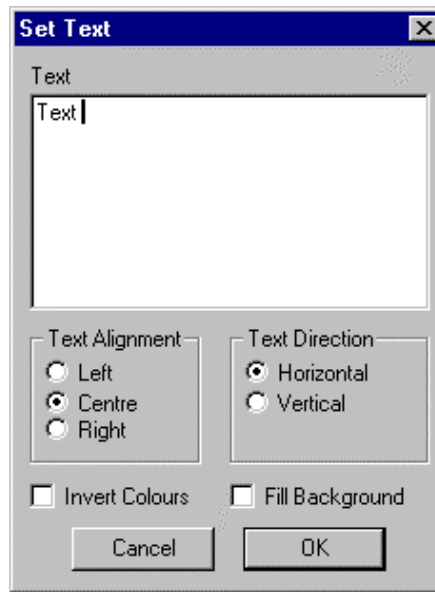

Figure 13.2 – Set Text
5. The Set Text window opens (Fig 13.2)